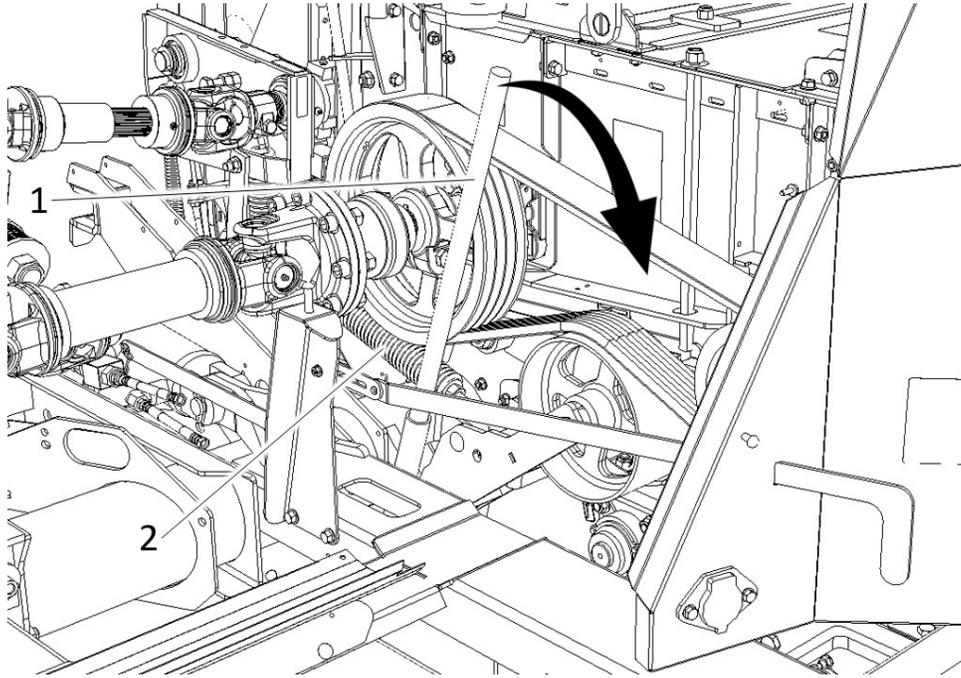

Figure 36 Accelerator tensioner
STEP 3 - FIGURE 36
Reinstall the accelerator belt and hook the spring back on (item 2). Use the knife guide bar (item 1) to reset the tension in the belts. (Reverse from Step 3 – FIGURE 36 ACCELERATOR).